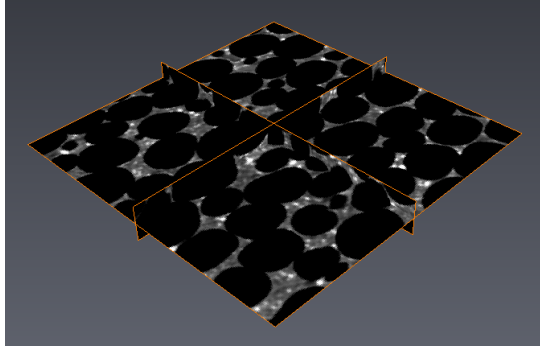

Figure 4.1: Initial data
- Attach two other *Ortho Slice* modules. In the Properties panel of the second *Ortho Slice*, select the *xz* orientation and the *yz* orientation in the Properties panel of the third *Ortho Slice*. See the resulting display on Figure 4.1.